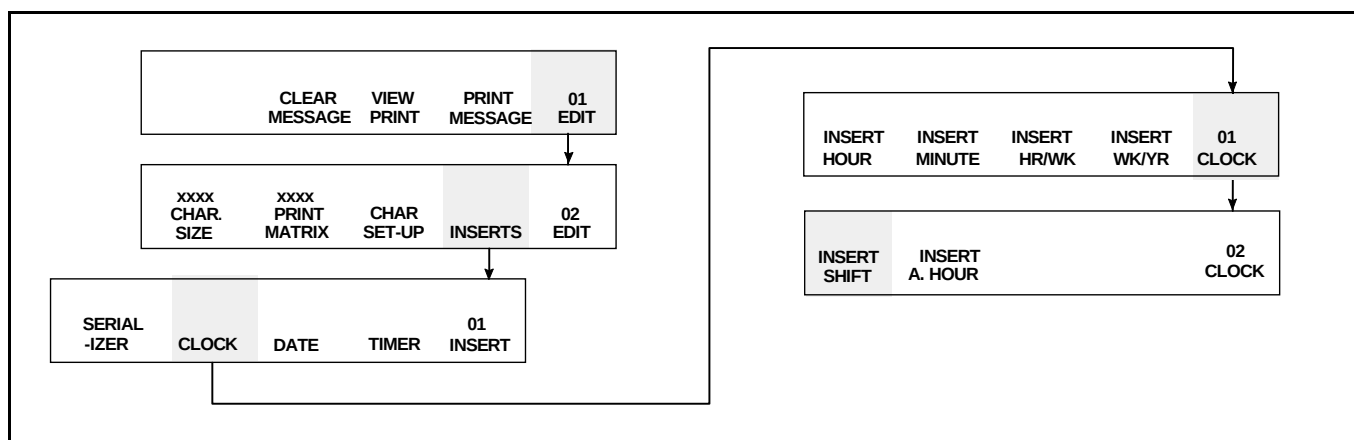

Figure 6-37. Inserting a Work-shift Code into a Message
1. Begin in Frame <02 CLOCK>. Refer to Figure 6-37.